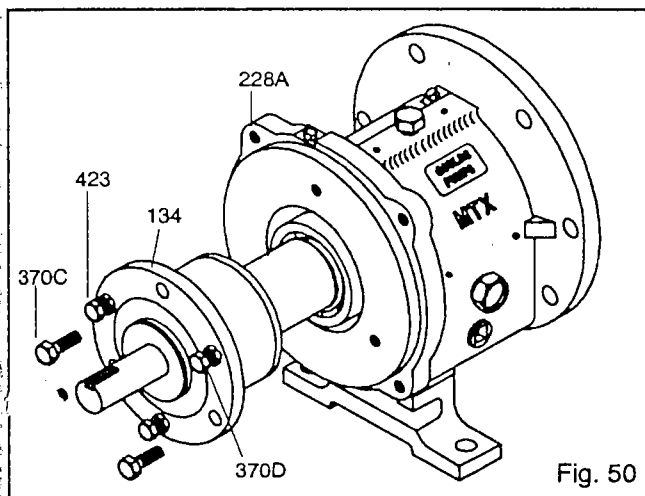

Fig. 50
1. Remove clamp screws (370C). Back off jam nuts (423). Tighten jack screws (370D) evenly, this will start bearing housing (134) out of bearing frame (228A) (Fig. 50).